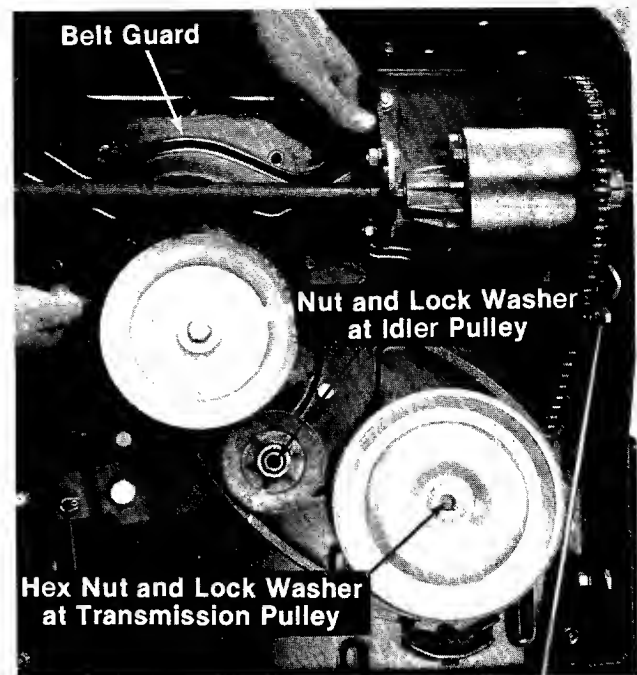

FIGURE 22. ENGINE BELT GUARD REMOVAL
4. Remove the belt guard at the engine pulley. See figure 22.
5. Remove the nut and lock washers at the idler pulley. See figure 22.
6. Remove the hex nut and lock washer at the transmission pulley. See figure 22.